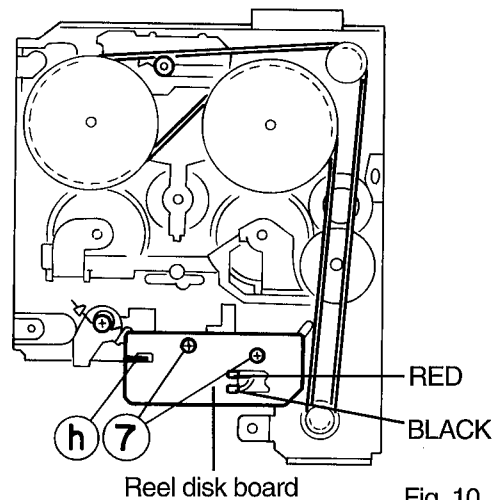

Fig. 10
■ **Removing the Reel Disk Board ( See Fig. 10 )**
6. Remove the two screws (7) fixing the reel disk board.